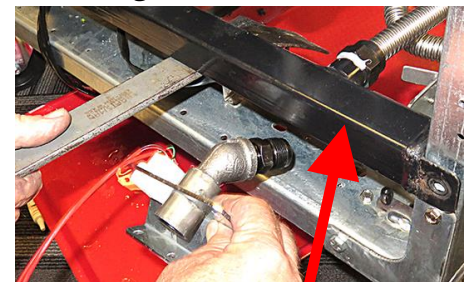

Figure 36
40. Using a prybar, gently lift the oil manifold up slightly to allow the oil dispose assembly 1085784 to slide in between the gas and oil manifolds (see Figure 36).